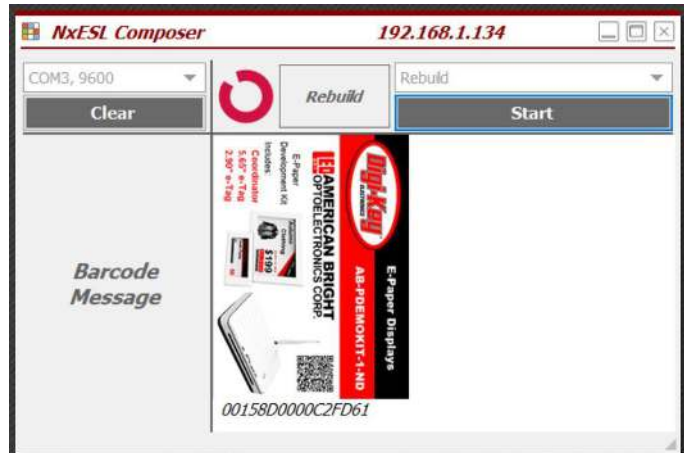

Fig. 12
1. Select the **Tools** tab; then select **Composer Tasker** to open the **NxESL Composer** dialog box. Select **Rebuild** from the task dropdown; then press start. Composer will place the article data into the template(s) and display the information in succession. See Figure 12. When complete, close dialog box.